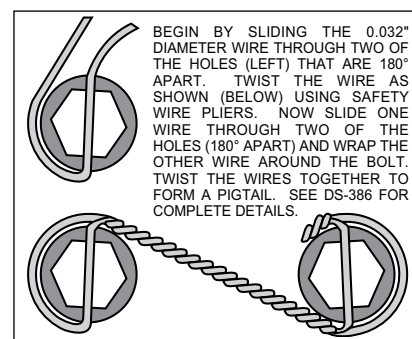

Figure 5. Safety Wire Diagram
- With the larger I.D. side of the rotor (4) facing away from the hat (3), bolt rotor (4) to hat (3) through the backside of the rotor using washers (5) and bolts (6). Apply red *Loctite*® 271 to the bolt threads and torque to 155 in-lb using a criss-cross pattern. For an added measure of security, the bolts may be safety wired using standard 0.032 inch diameter stainless steel safety wire as shown in Figure 5. Please refer to Wilwood's data sheet DS-386 (available at www.wilwood.com/Pdf/DataSheets/ds386.pdf) for complete safety wire installation instructions.
- Slide the rotor registration adapter (18) onto the axle register on the axle flange with the smaller O.D. facing toward the rotor/hat (3). Align the correct hole pattern in the hat with the stud pattern on the axle flange. **NOTE:** Some OEM and aftermarket axles come with stud sizes larger than 0.50" diameter. Verify stud size and have a qualified machine shop drill the hats to the correct size, if necessary. Slide the hat/rotor assembly (3 and 4) over the wheel studs covering the bracket kit assembly (1) and against the axle flange face. Check to be sure the hat seats squarely against the hub. Install a couple of lug nuts (finger tighten) to keep the rotor/hat assembly in place while continuing with the installation.